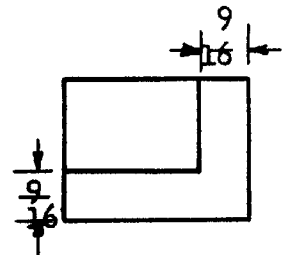

Fig. 3
4. Apply layout dye and layout from print. Use hermaphrodite calipers set at $9/16"$ Fig. 3